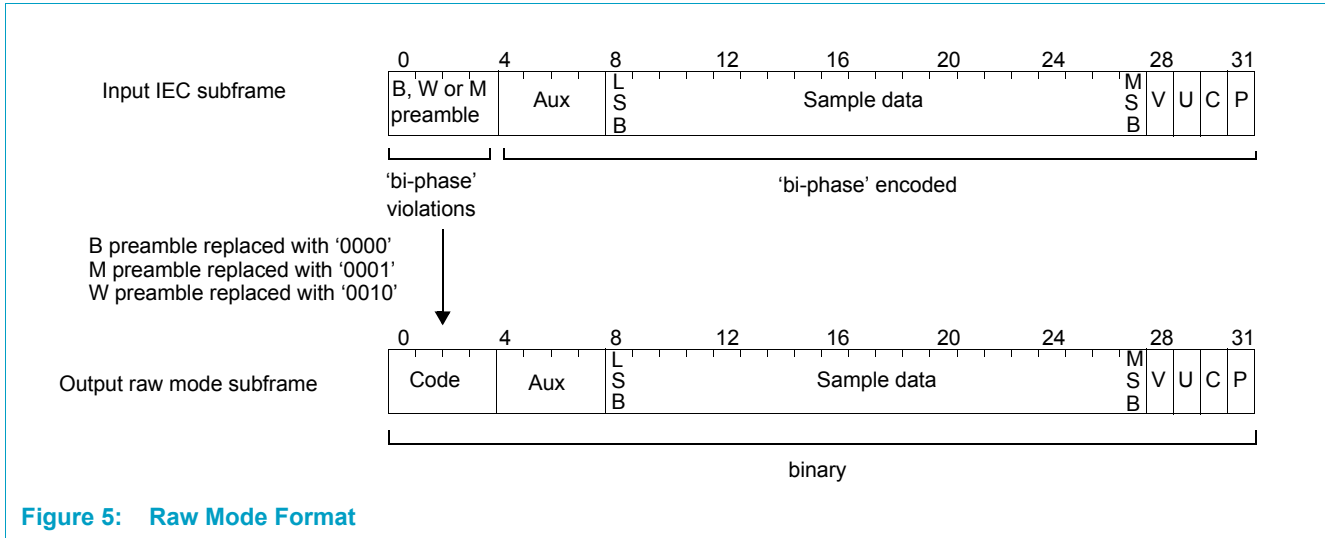

Figure 5: Raw Mode Format
- Raw capture mode:** Input subframes are captured and all ‘bi-phase’ encoding (bits [31:4]) is replaced with a binary representation. The preamble portion (bits [3:0]) of the subframe is replaced with a code indicating what preamble was present (see Figure 5). All parts of the subframe are assembled in order and this